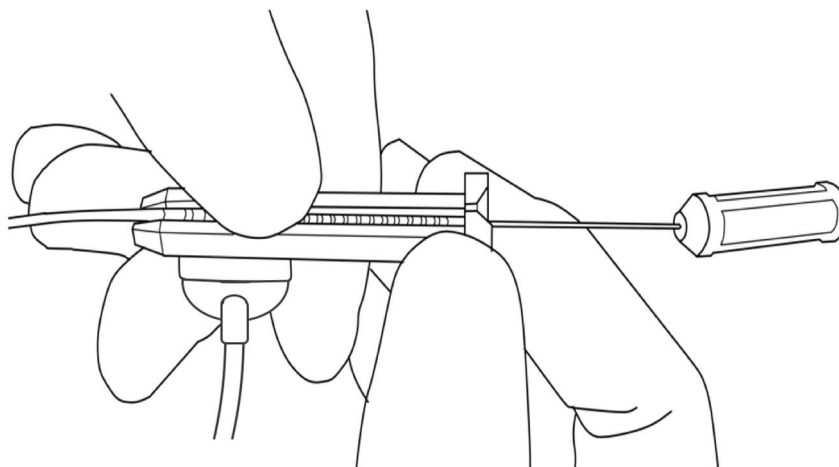

Figure 10.3: Pushing lead into slot.
2. Push the lead down into the slot completely using a finger (see Figure 10.3), so that the lead is flush with the top of the slot. The lead should not move when fully pushed into the slot. After the lead is in the slot, press down again along its length to ensure it is secure in the slot.
3. Place the top cover of the distal end of the intraoperative cable over the lead, with the open side of the top cover aligned with the cable connection. Slide the top cover all the way onto the distal end until the notch on the top cover clips into place (see Figure 10.3).